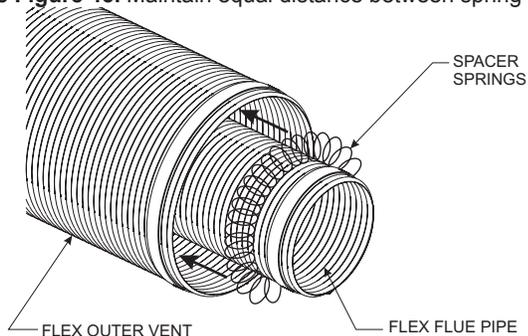
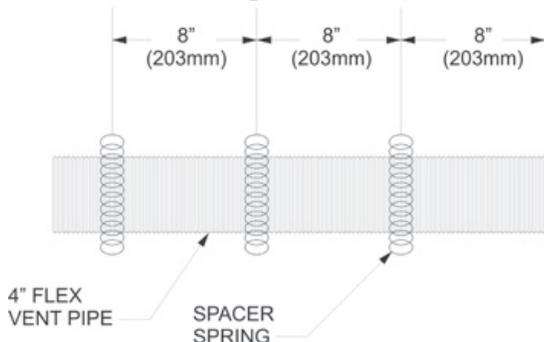

Figure 44
Figure 45
2. Check to see that the vent spacer springs are located around the flue vent at 8" and 12" intervals along its length. **See Figure 44.** If not, stretch the spacer springs to about 15" long and wrap them around the flue, then interlock the ends of each spring about 2". **See Figure 45.** Maintain equal distance between spring spacers.
## Finishing The Wall For DFQ41W Series, DFQ414BL Decorative Front With Finishing Materials Less Than 1 in. (25.4mm) Thick - Figure 45